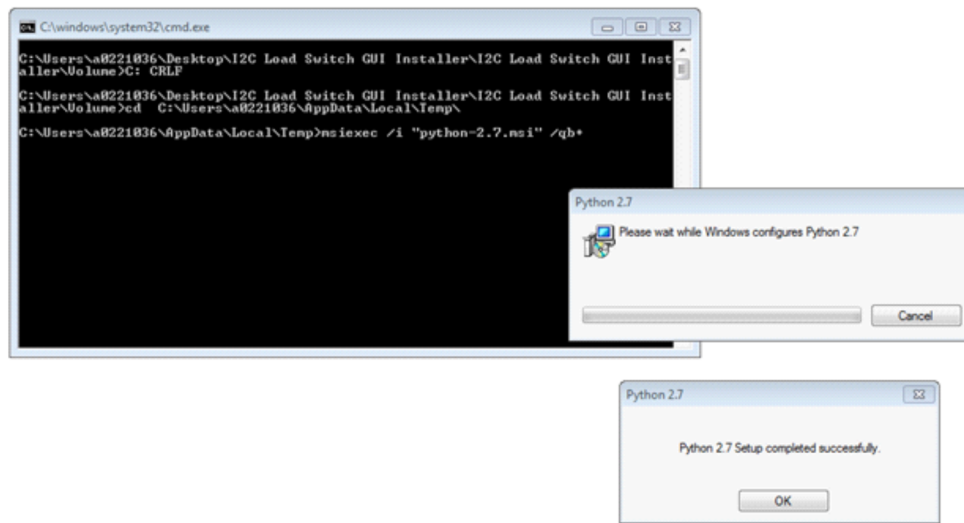

Figure 3. Python Installer
(C) You will see a Python installer begin, see Figure 3, let the installer complete and then click OK.